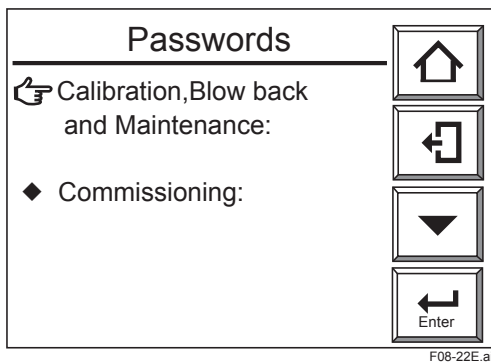

Figure 8.22 Passwords Display
- 3) Select the "Others" then the "Passwords". The display shown in Figure 8.22 appears. First set the password for Calibration, Blow back, and Maintenance.